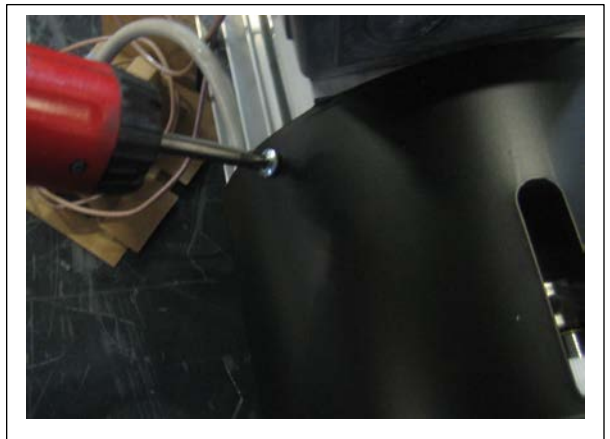

Figure 74
3. Remove the screws holding the brake cover on the motor and remove the brake cover. (See Figure 74 & 75.)